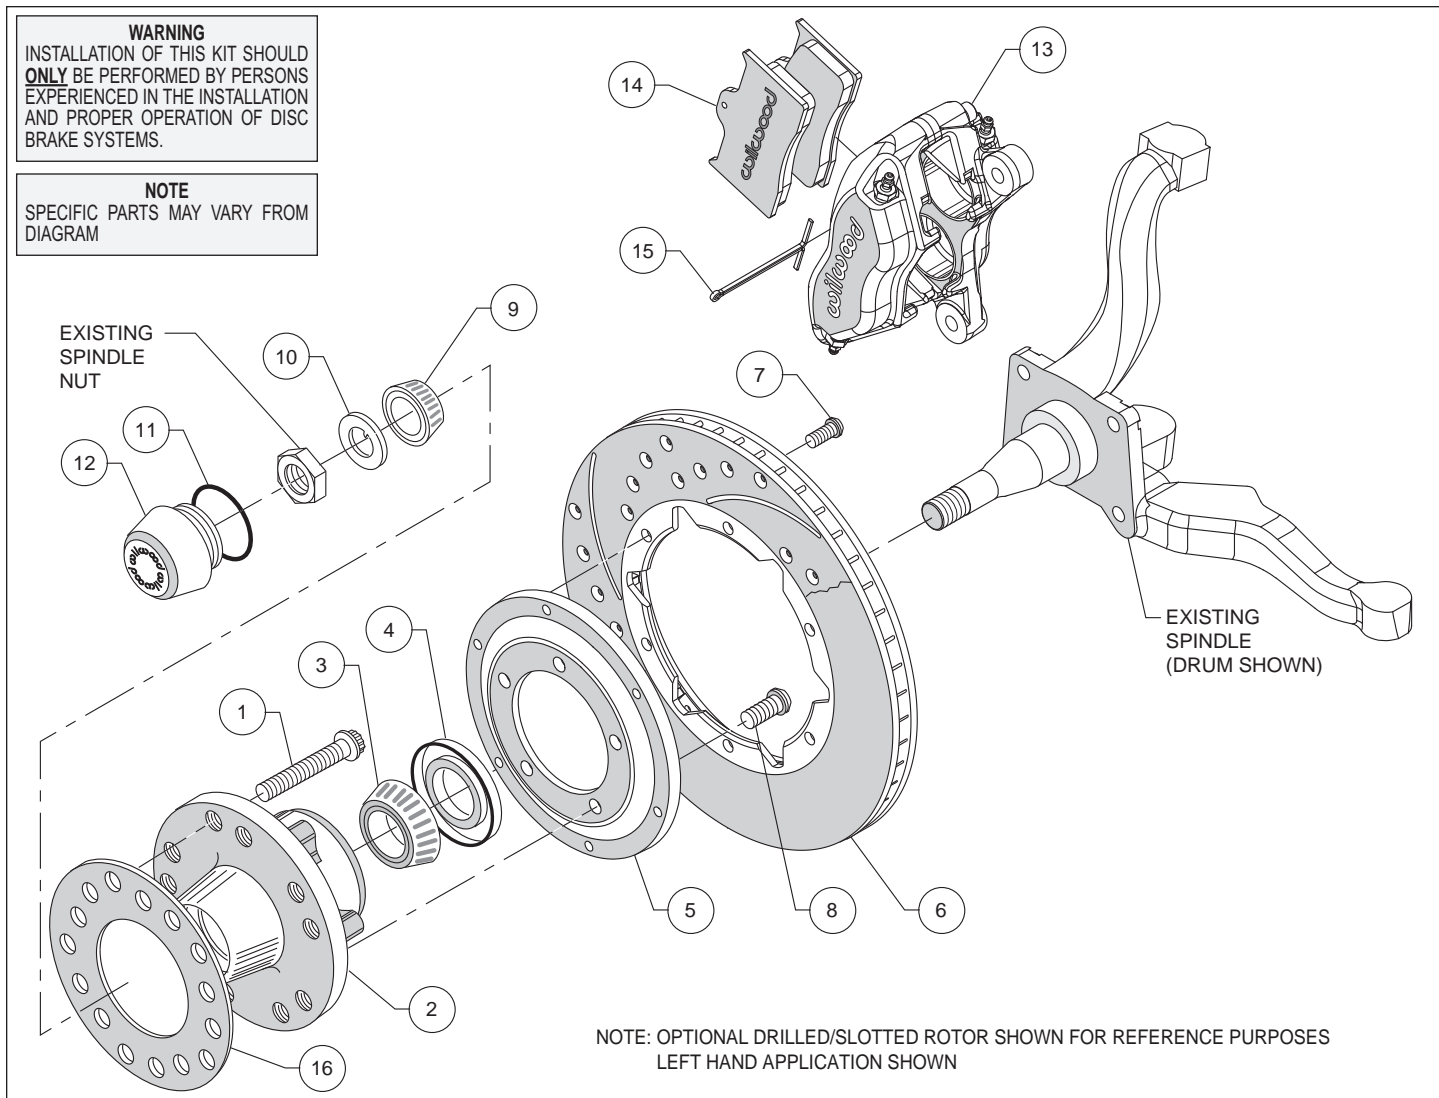

Figure 1. Typical Installation Configuration
### Assembly Instructions (numbers in parenthesis refer to the parts list, and Figure 1):
- Install the grease seal (4) by pressing into the backside of the hub (2), flush with the end of the hub, Photo 2.
- Orient the rotor (6) and the rotor adapter (5) as shown in Figure 1 and Photo 3. Attach the rotor to the adapter using bolts (7). Using an alternating sequence, apply red *Loctite*® 271 to the threads, and torque to 25 ft-lb.
- Mount the adapter/rotor assembly (5/6) to the hub (2) using bolts (8), as shown in Figure 1 and Photo 4. Using an alternating sequence, apply red *Loctite*® 271 to the threads, and torque to 45 ft-lb.